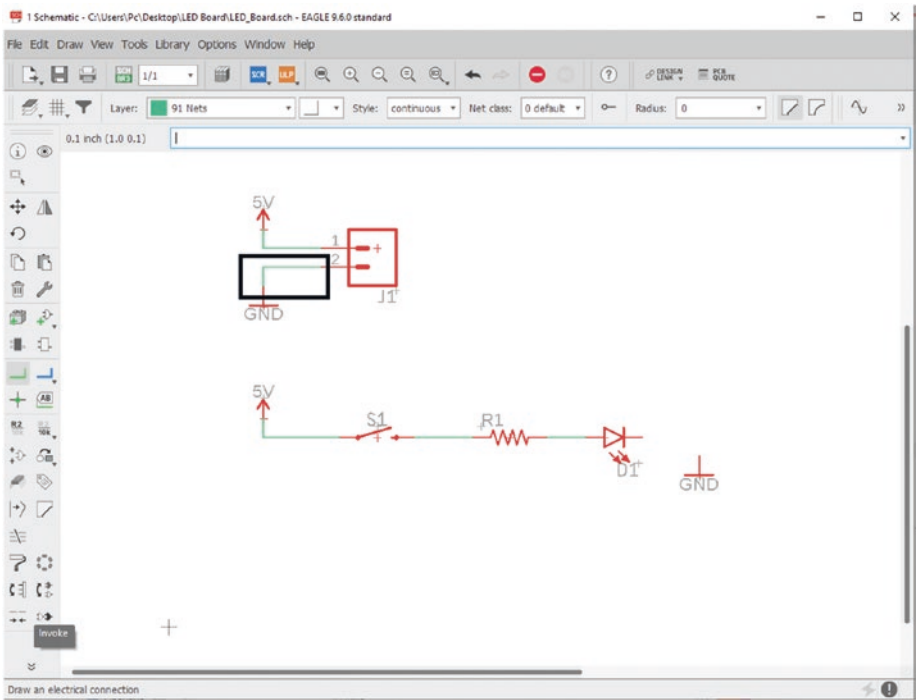

Figure 5-47. Connect GND to the terminal block
35. Connect the GND symbol to the 5mm terminal block. See Figure 5-47.